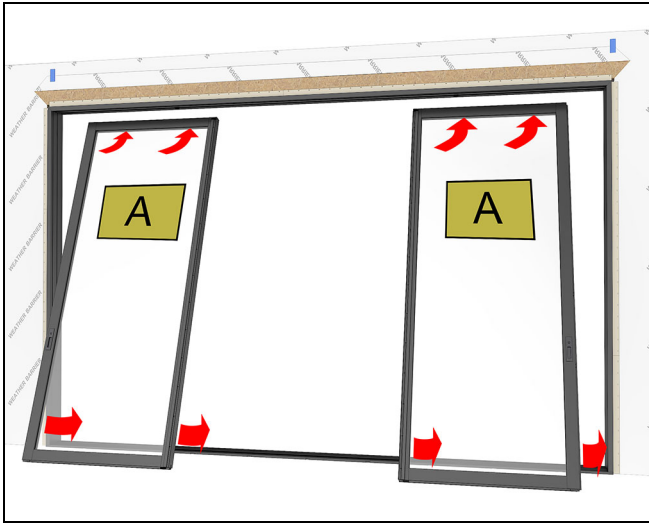

Figure 161
4. Install the (A) primary panels on the interior track. See Figure 161.